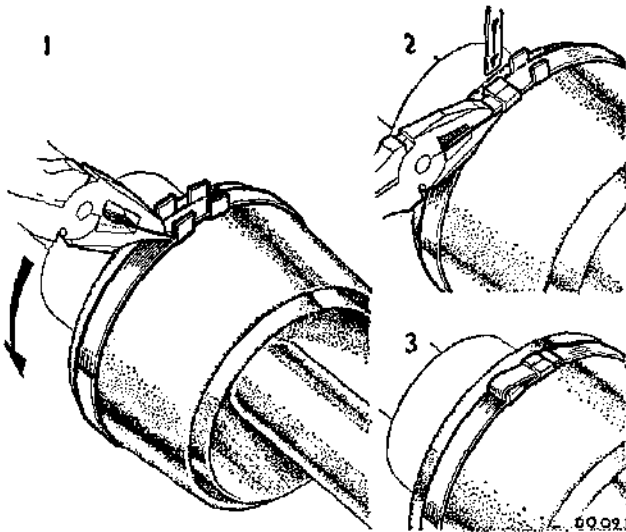

Fig. G.6
●Fig. G.6
(25) Hold the shaft in a vice and locate the inner race on the shaft. Press the joint assembly against the spring ring whilst locating the ring centrally and contracting it in the chamfer of the inner race with screwdrivers. With the spring ring centralized, a sharp tap on the end of the stub shaft with a soft faced mallet will close up the ring, and the assembly can then be tapped on to the drive shaft. Make sure that the shaft is fully engaged, with the inner race against the circlip and that the inner ring has expanded inside the joint.
(26) Slide the rubber boot over the bell joint until the radiused rib registers in the locating groove, and secure it with the large clinching clip using Service tool 18G 1099 (Fig. G.6). This is fitted with the tab pulled through away from the direction of forward rotation. Locate the other end of the boot in the groove in the drive shaft and secure it with the small clinching clip using pliers 18G 1099.
●NOTE.—A modified rubber boot which has axial convolutions (see Fig. G.6) should be fitted when a replacement is required. ●
- (25) Hold the shaft in a vice and locate the inner race on the shaft. Press the joint assembly against the spring ring whilst locating the ring centrally and contracting it in the chamfer of the inner race with screwdrivers. With the spring ring centralized, a sharp tap on the end of the stub shaft with a soft faced mallet will close up the ring, and the assembly can then be tapped on to the drive shaft. Make sure that the shaft is fully engaged, with the inner race against the circlip and that the inner ring has expanded inside the joint.
- (26) Slide the rubber boot over the bell joint until the radiused rib registers in the locating groove, and secure it with the large clinching clip using Service tool 18G 1099 (Fig. G.6). This is fitted with the tab pulled through away from the direction of forward rotation. Locate the other end of the boot in the groove in the drive shaft and secure it with the small clinching clip using pliers 18G 1099.
- (27) Lubricate the yoke end of the drive shaft and the inside of the yoke housing seal and slide the seal onto the shaft. Fill the cavity in the sliding joint yoke with $\frac{3}{4}$ oz. (21 gm.) of Duckham's M-B grease and fit the yoke to the shaft. Locate the seal into the groove on the shaft and the other end over the sleeve location. Push the shaft to the bottom of the yoke so that grease is driven into the seal. Hold the outer lip of the seal open to allow air and surplus grease to escape, ensure that the diameter of the bellows does not exceed 1.75 in. (44.5 mm.). Secure the yoke seal with clinching clips using pliers 18G 1099.